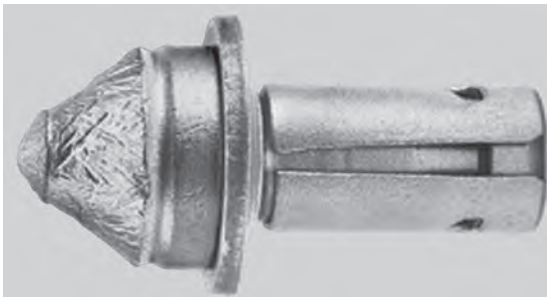

Figure 17
Figure 17 shows features of an ideally worn tooth that needs replaced.
**NOTE:** The teeth shown in Figures 17–19 are standard models. Similar concepts apply to all teeth models.